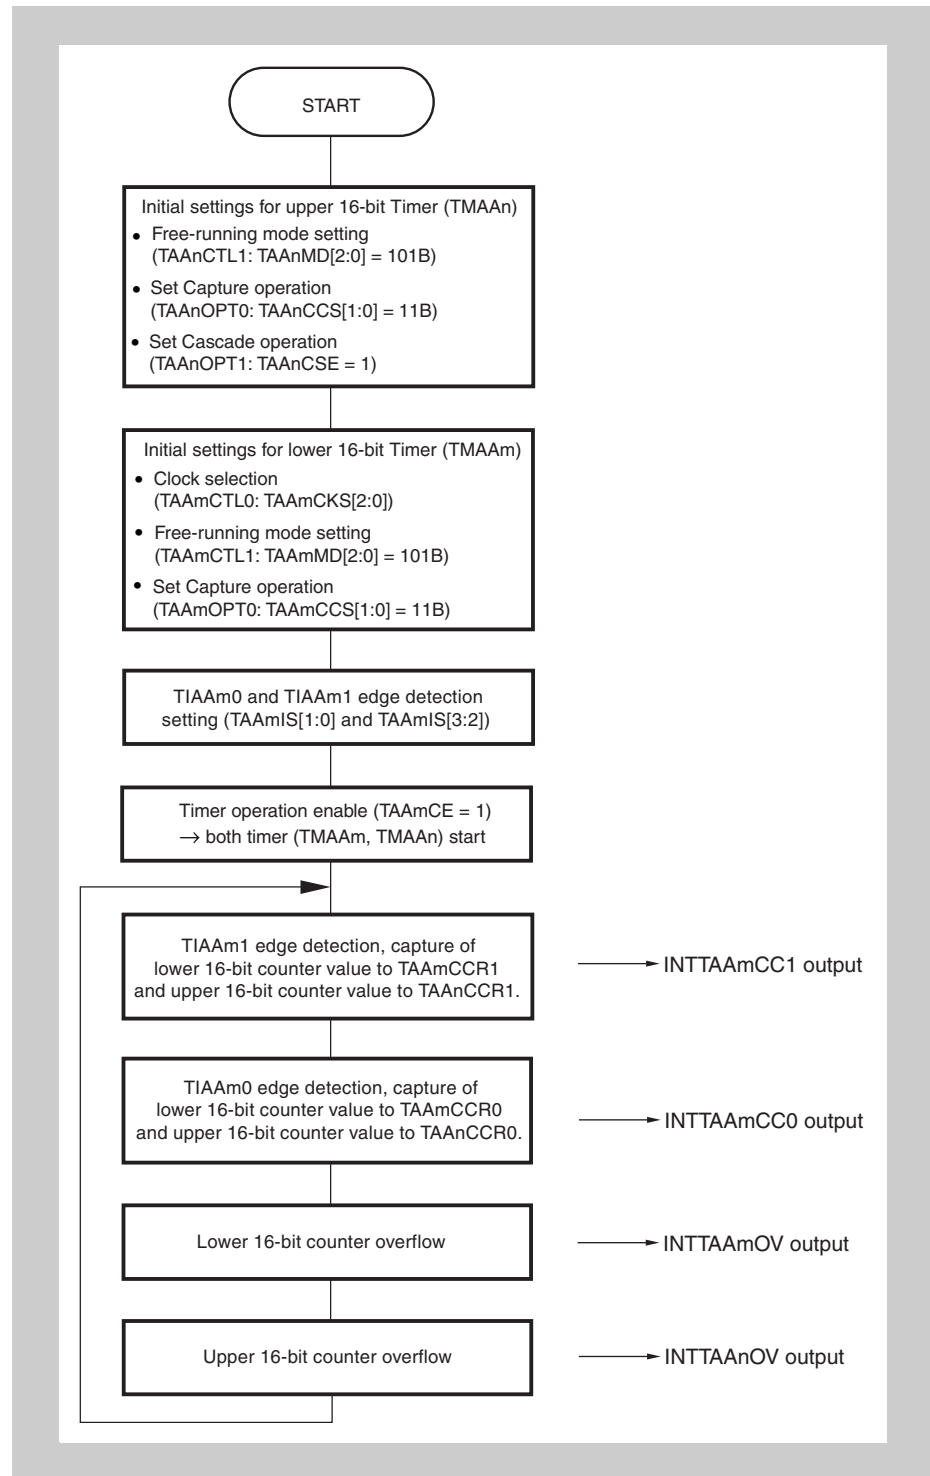

Figure 10-35 Basic Flow of 32-bit Capture Mode
*Figure 10-35* shows the recommended flow for setting up TAAm and TAAn in cascade mode. As TAAm is used for general control, TAAn is set up first and set in cascaded operation by setting the TAAnCSE bit to 1. Then TAAm is initialized by selecting the proper clock setting and capture trigger input. Only TIAAm0 and TIAAm1 can be used as external capture trigger.